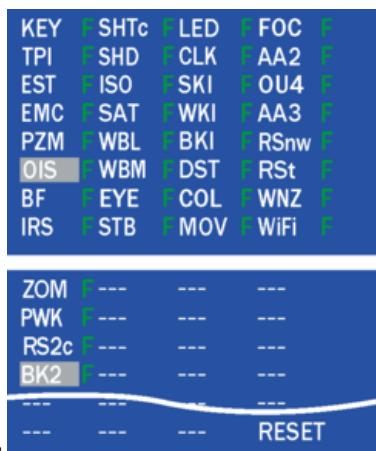

Fig. 3-2
1. After pressing the [DISP.] button, the LCD monitor displays the Flag status screen. (Refer to Fig.3-2)